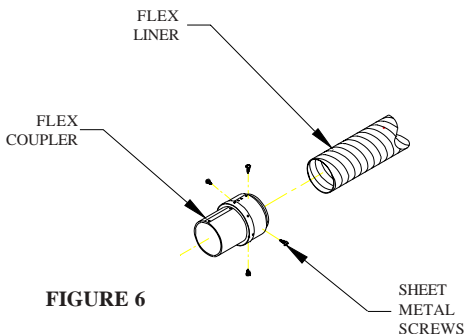

FIGURE 6
**Step 7.** Attach the Flex Liner ends at the top of the chimney to the Co-Linear to Co-Axial Adaptor. Use four sheet metal screws to connect each Flex Liner run to the Adaptor. (Figure 6)